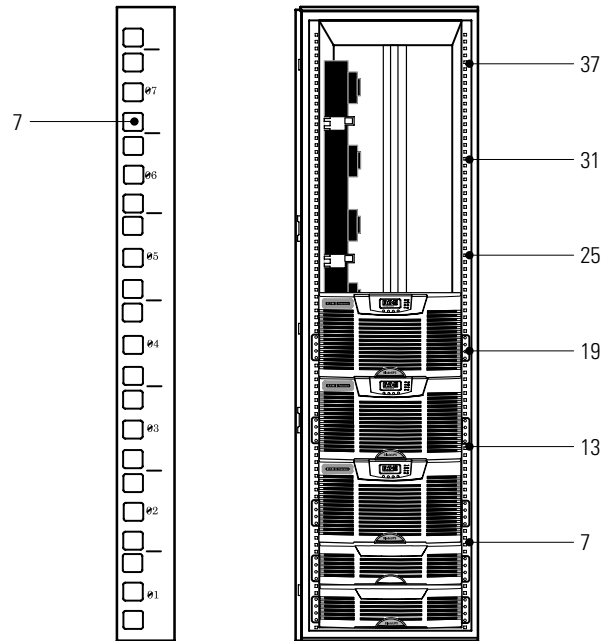

Figure 3. Recommended Rail Locations (Example Configuration)
8. Plan where each cabinet will be located in the rack and determine the "U" marks to use for mounting the rails. For example, for a rack containing six UPSs and a bottom wireway, plan to mount the bottom of the rails at the following marks (see Figure 3):
NOTE Recommended rail locations are for example only. Adjust the locations as needed for your system's configuration. Allow for hole spacing and numbering (see Figure 3).